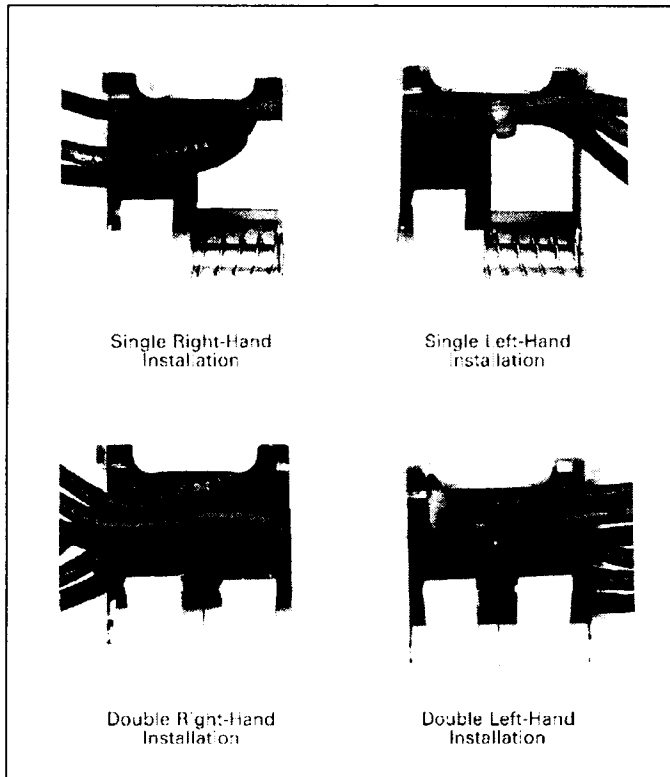

Fig. 2-2. Pigtail Lead Routing for Single and Double Auxiliary Switches
**Note:** The SPDT switch in a single auxiliary switch is mounted on the right side of the plug-in module. If the plug-in module with pigtail leads is to be installed in the righthand accessory mounting cavity of the circuit breaker, the pigtail leads must be bent to exit the right side of the circuit breaker. (See Fig. 2-2.)
When a double auxiliary switch with pigtail leads is installed, the leads from the inner auxiliary switch must go into the wiring trough in the base nearest the line end of the circuit breaker. The leads from the outer auxiliary switch must go into the trough nearest the load end of the circuit breaker. Leads from the inner auxiliary switch must be clipped into the insulating barrier notches. (See Fig. 2-2.)